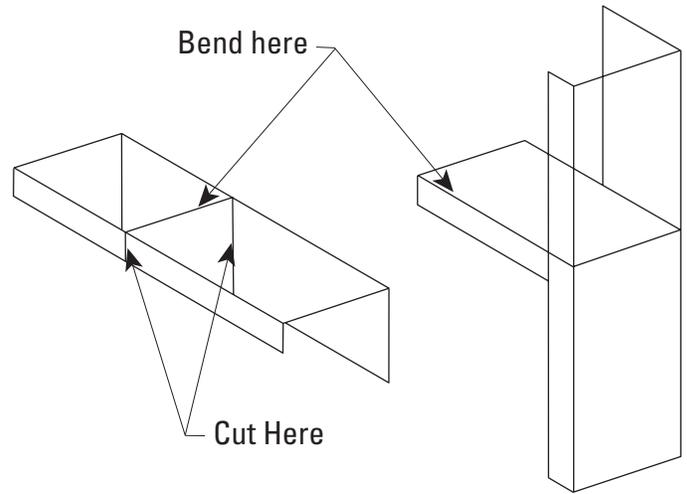

FIGURE 3: 1 HOUR SHAFTWALL RATING
2. Fire damper and sleeve assemblies 80"x50" (2032x1270), 50"x80" (1270x2032), or 40"x84" (1016x2134) and smaller only require retaining angles on one side of the partition (see Figures 3 and 4 on next page). Retaining angles must be attached to the sleeve and the partition. Larger damper assemblies require retaining angles on both sides of the partition.